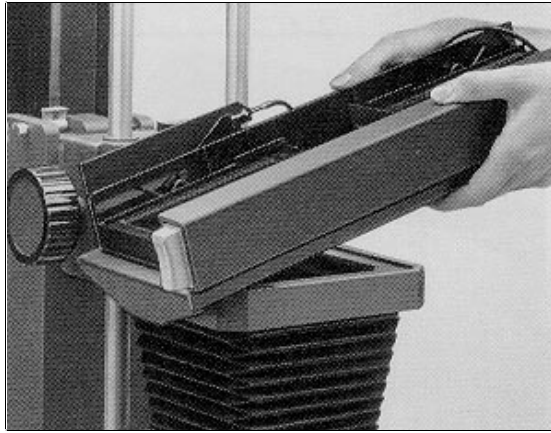

Figure 2-21. Hooking Sliding Head Onto Camera
- b. Hook the camera head onto the left side of the camera body (figure 2-21), then lower the head carefully. Be sure that the pins engage in the holes on the camera body.